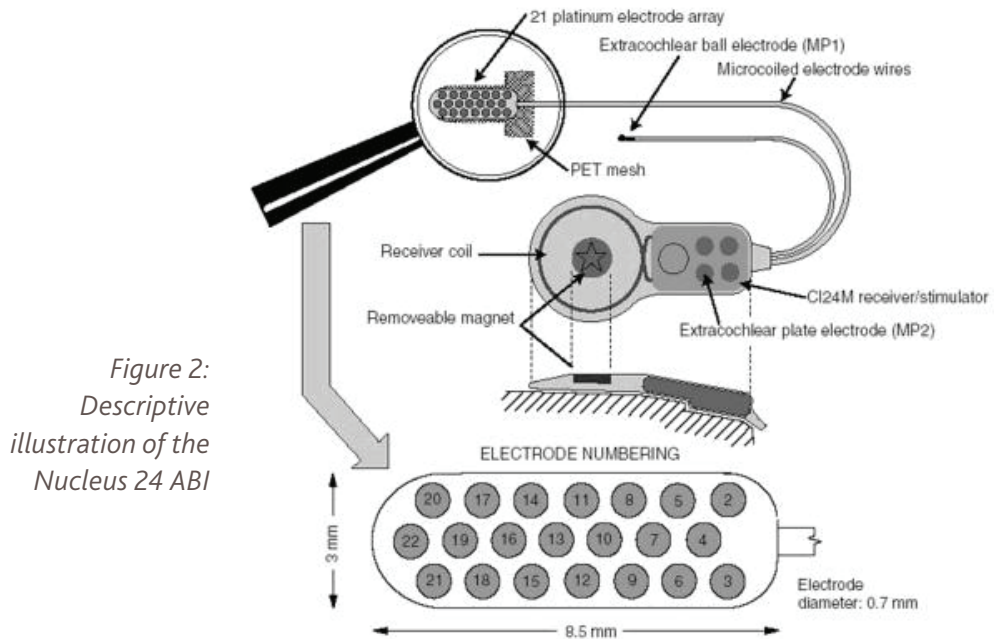

Figure 2:
- The electrode array comprises 21 platinum disk electrodes, 0.7 mm in diameter, mounted on a silicone carrier in three rows of seven. The silicone carrier measures 8.5 mm x 3.0 mm x 0.6 mm. The 21 stimulating electrodes correspond to E2-E22 in the programming – there is no E1 connection (Figure 2).